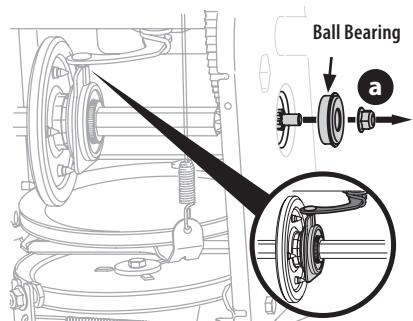

Figure 91
- Carefully remove hex nut (a) which secures hex shaft to frame and lightly tap the shaft's end to dislodge ball bearing from right side of frame (Figure 91).
NOTE: Make sure shift lever pin is in place in bearing housing (Figure 91 inset).